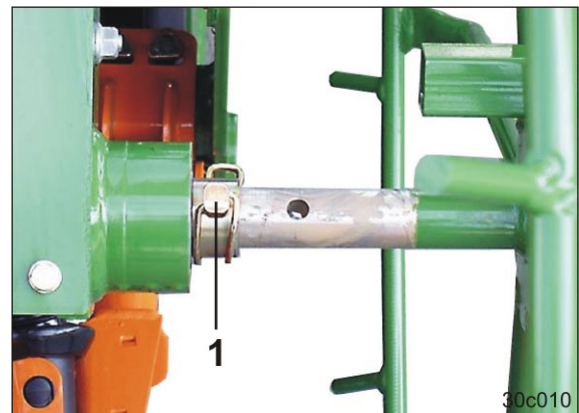

Fig. 148
- 3.1 Loosen the linch pin (Fig. 148/1) and pull the star wheel off of the drive.